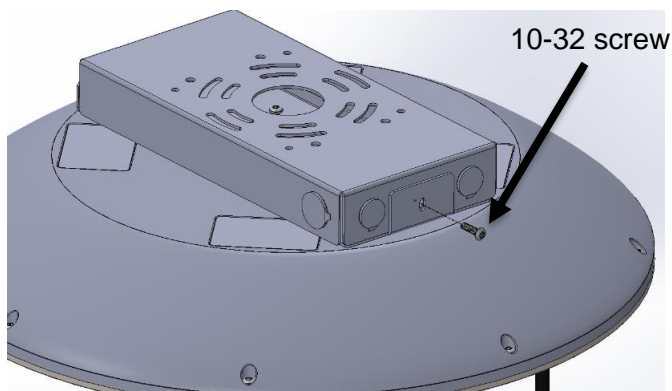

Figure 1.
1. Remove the mounting plate by loosening the 10-32 head torx screw (fig. 1)